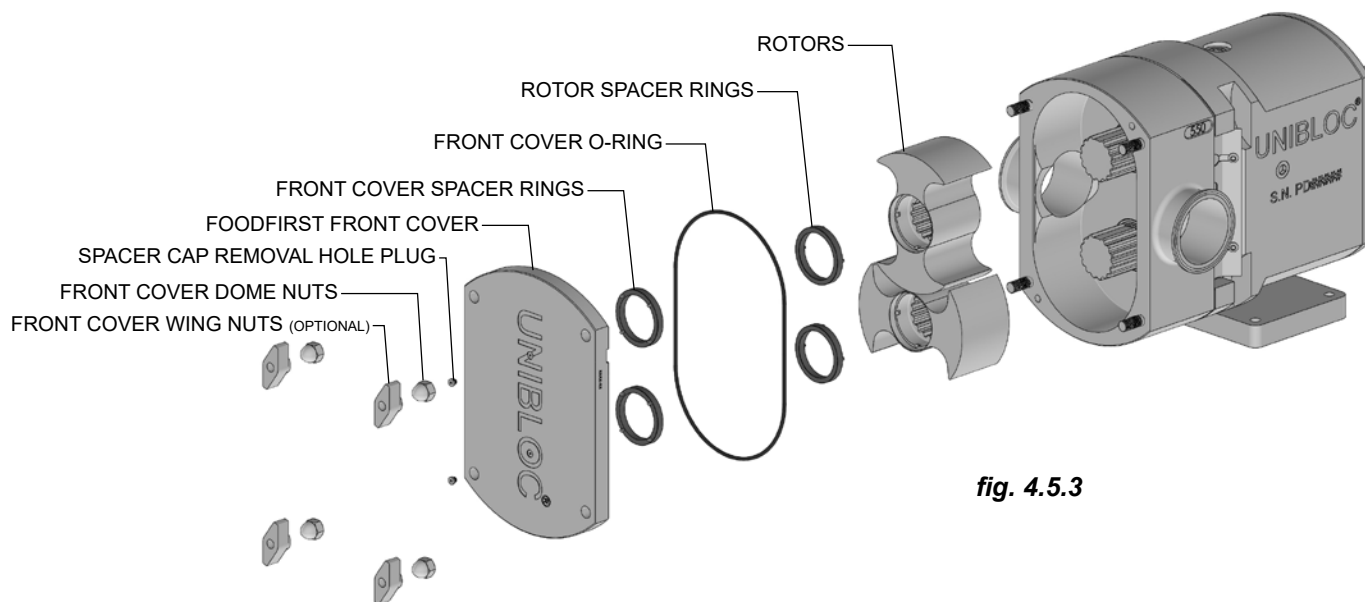
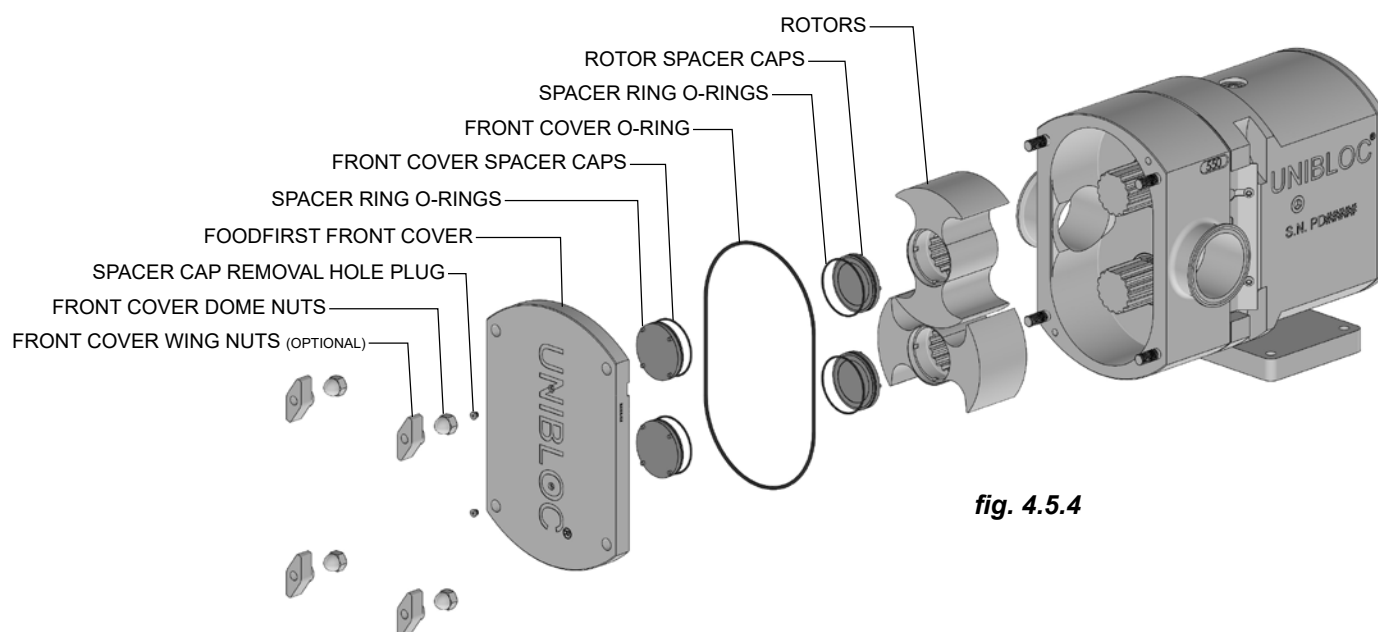

fig. 4.5.3
fig. 4.5.4
FoodFirst Rotors do not require locking mechanisms and work in tandem with the **FoodFirst Front Cover**. The FoodFirst system utilizes two sets of removable spacer rings (fig. 4.5.3) or caps (fig. 4.5.4). One set of spacer rings or caps are located in the front cover (**Front Cover Spacer Ring/Front Cover Spacer Cap**) while the other set are located in the rotors (**Rotor Spacer Ring/Rotor Spacer Cap**). It is important to take care when maintaining FoodFirst pumps. Damage to the spacer rings/caps, rotors, and front cover may prevent the pump from operating as intended.
4.5.2.4.0 FoodFirst Front Cover Removal- Spacer Rings (reference fig. 4.5.3)
4.5.2.4.3 FoodFirst Front Cover Removal- Spacer Caps (reference fig. 4.5.4)
4.5.2.4.3 FoodFirst Rotor Removal (reference fig. 4.5.3 and 4.5.4 in Section 4.5.2.4)